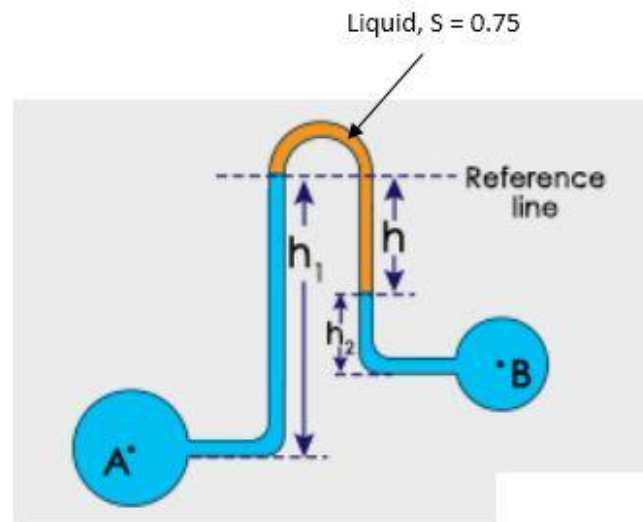

Figure 1
1. (a). An inverted differential manometer having a fluid of specific gravity of 0.75 is connected to two different pipes carrying water under pressure as shown in **Figure 1**. If $h_1 = 200$ mm, $h_2 = 50$ mm, $h = 125$ mm and the pressure at Pipe A is 1.5 m of water, determine the pressure in Pipe B.